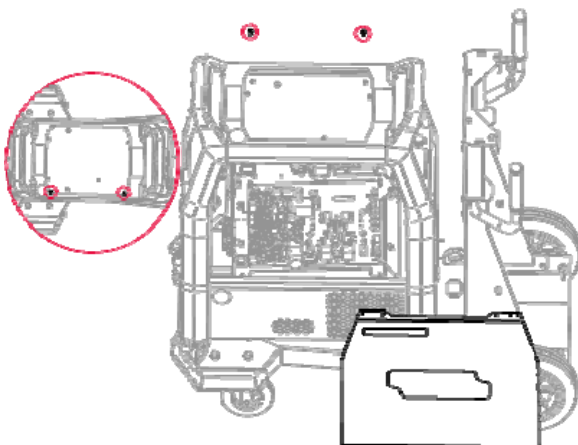

Figure 3
- Unscrew and remove the Speedtec side cover – unscrew the two M5x20 screws (Figure 3).